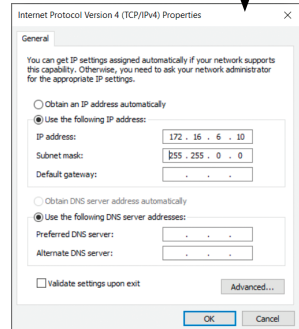

Fig. 11
5. Enter the following IP address: 172.16.6.xxx (any number except 225). As you can see in the above image (Fig. 11), the first 3 number sets (172.16.6) in the IP Address field need to be the same as the Junction Box IP address. You can only change the last number set with any number from 1 to 254. Click in the Subnet Mask area, which should auto-complete. Click OK (Fig. 11).